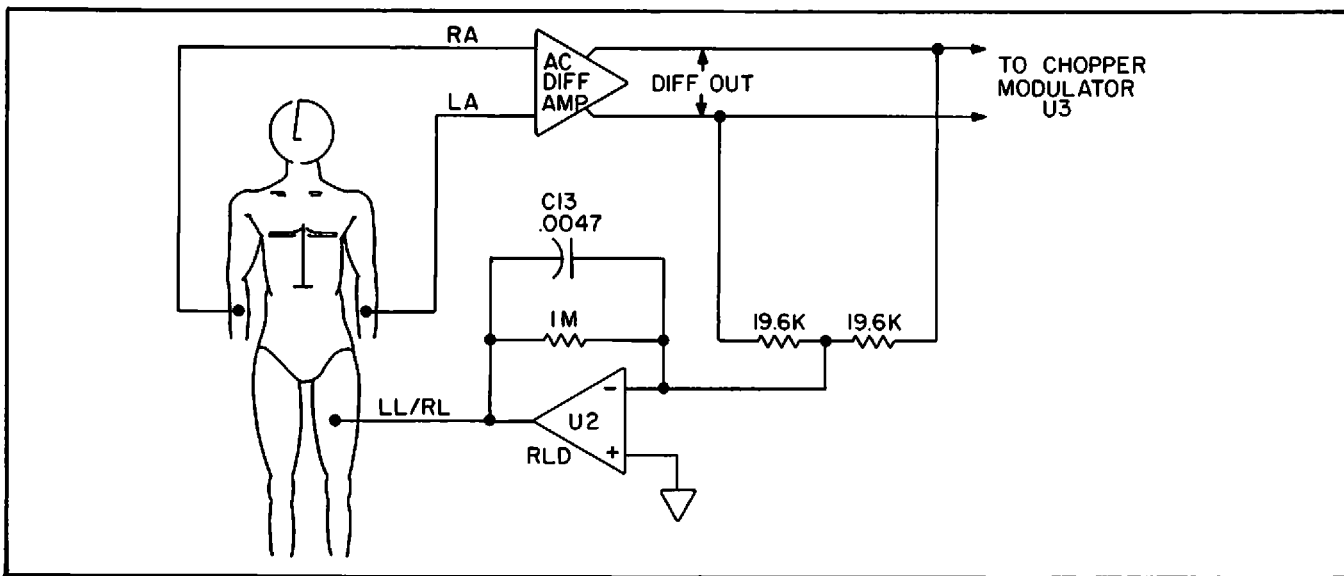

Figure 2-6
2.3.2.3 Right Leg Drive (RLD) (Fig. 2-6)